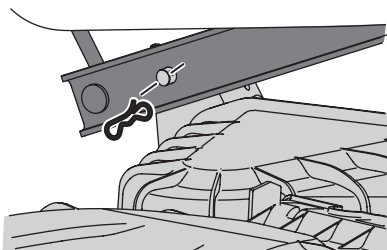

Fig. 45
- Looking at the deck from the left side of the tractor, locate the bow-tie pin on the rear left side of the deck (Fig. 45).
- Remove the pin and slide the deck pin out of the deck lift arm (Fig. 45).